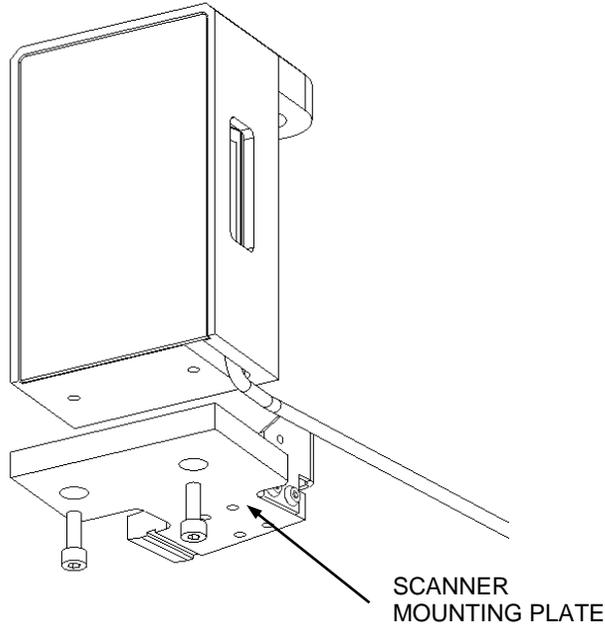

Figure 11-9: Removing the Scanner Mounting Plate
6. Remove the two M4x12 Socket Cap Head Screws that attach the scanner assembly to the scanner mounting plate (Figure 11-9).